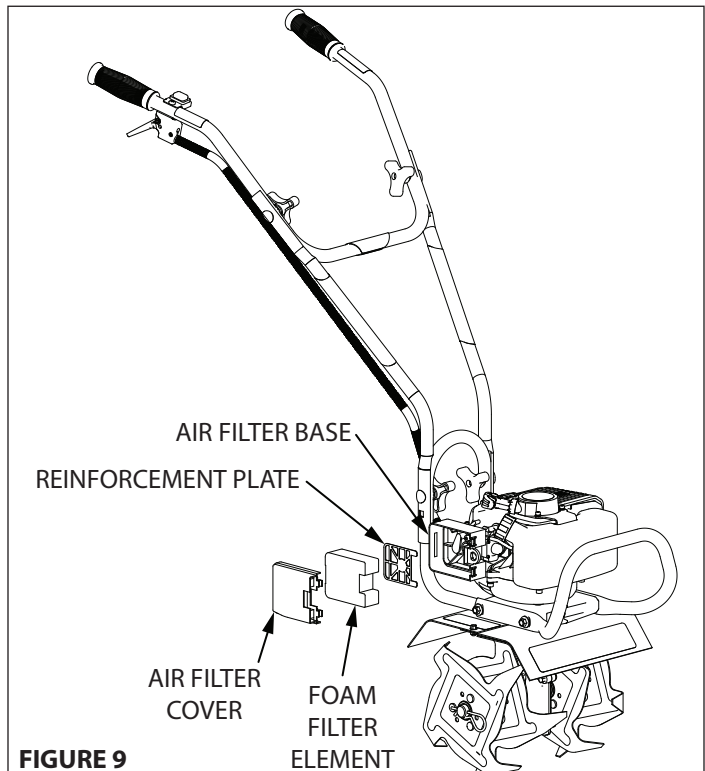

FIGURE 9
3. Remove the foam filter element and reinforcement plate. Replace with a new oiled foam filter or clean the original foam filter with warm water and mild soap. **SEE FIGURE 9**